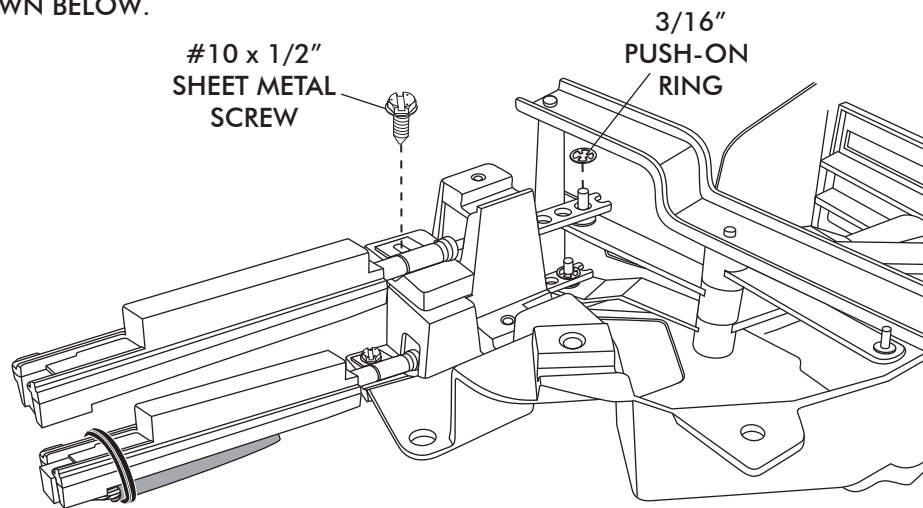

FIGURE 7
- INSTALL CABLE CONVERTER ASSEMBLY ON THE COLD/ HOT LEVER. SEE FIGURE 7 BELOW.